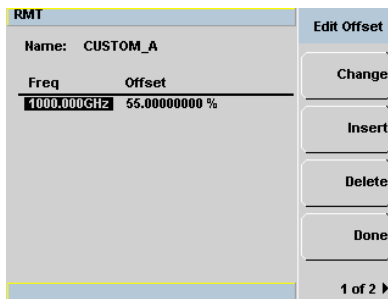

Figure 2-14 Edit Offset display with data added
- 2 Select the table you want to edit using the up/down arrow key. Press **Edit Table** to display the Edit Offset menu as shown in Figure 2-14.